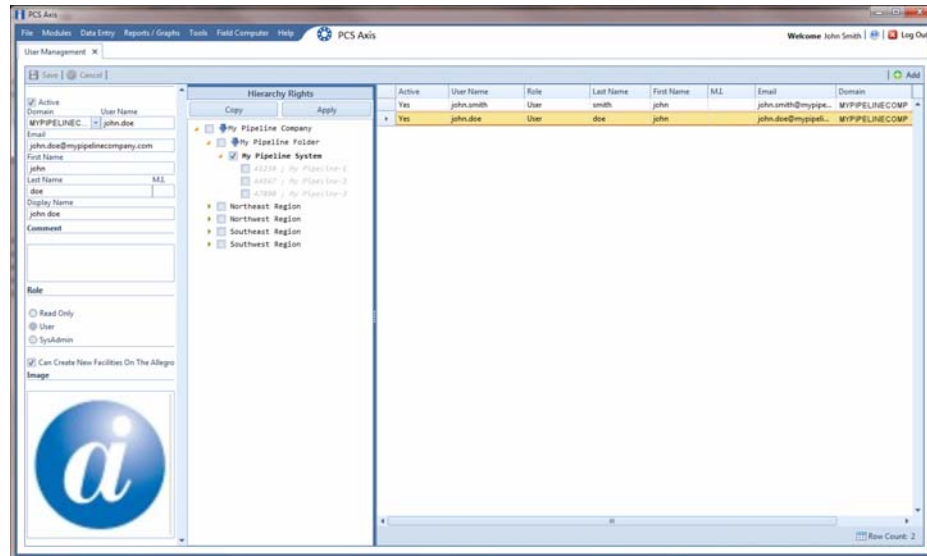

Figure 5-1. Adding a New User
- 1 Click **Tools > User Management > + Add** (Figure 5-1).
- 1 Click **Tools > User Management** (Figure 5-1, page 153).